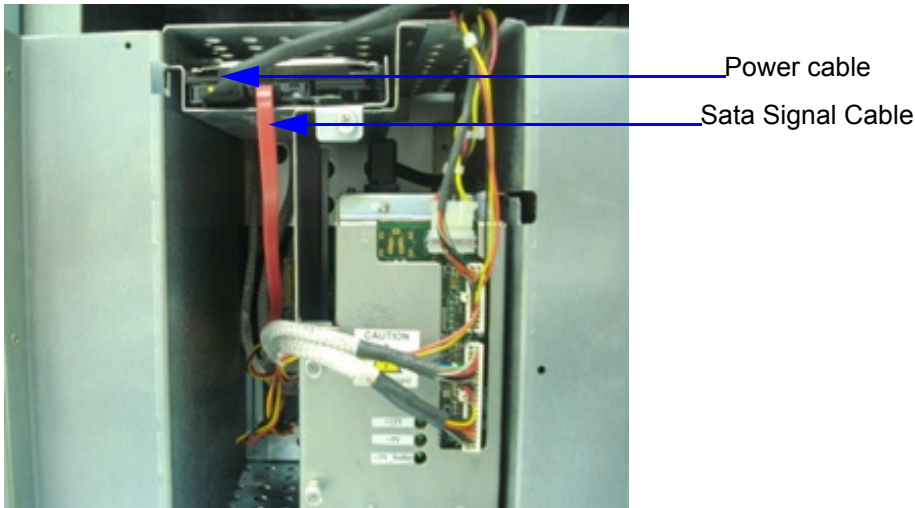

Figure 8-48 Removing SATA cable
3) Remove SATA cable from Hard disk drive assembly. Refer Figure 8-48 on page 8-54